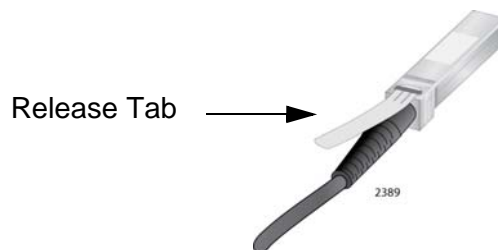

Figure 97. Release Tab on the AT-SBx31XS6 Line Card
2. Orient the connector on the AT-SP10TW cable so that the release tab is on top, as shown in Figure 97.